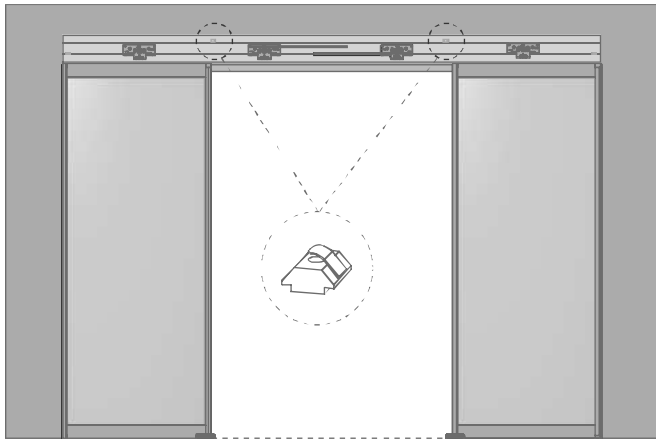
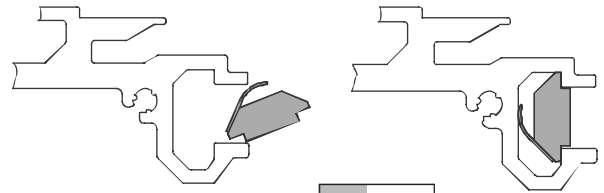

Fig. 10.1
Fig. 10.2
**i** Insert nuts in main profile as shown in the diagrams. Fig. 10.1 Fig. 10.2